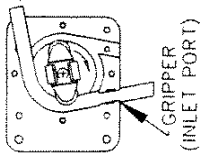

FIG. 3
7. Push new tubing into inlet port, anchoring the tubing in grippers (see figure 3). If using 9" piece of tube, 1 1/2" should be extended outside of inlet port.
8. Continue to run at slowest speed carefully feeding tube into race as the rollers turn. (Figure 3) (**KEEP FINGERS AWAY FROM ROLLERS.**)